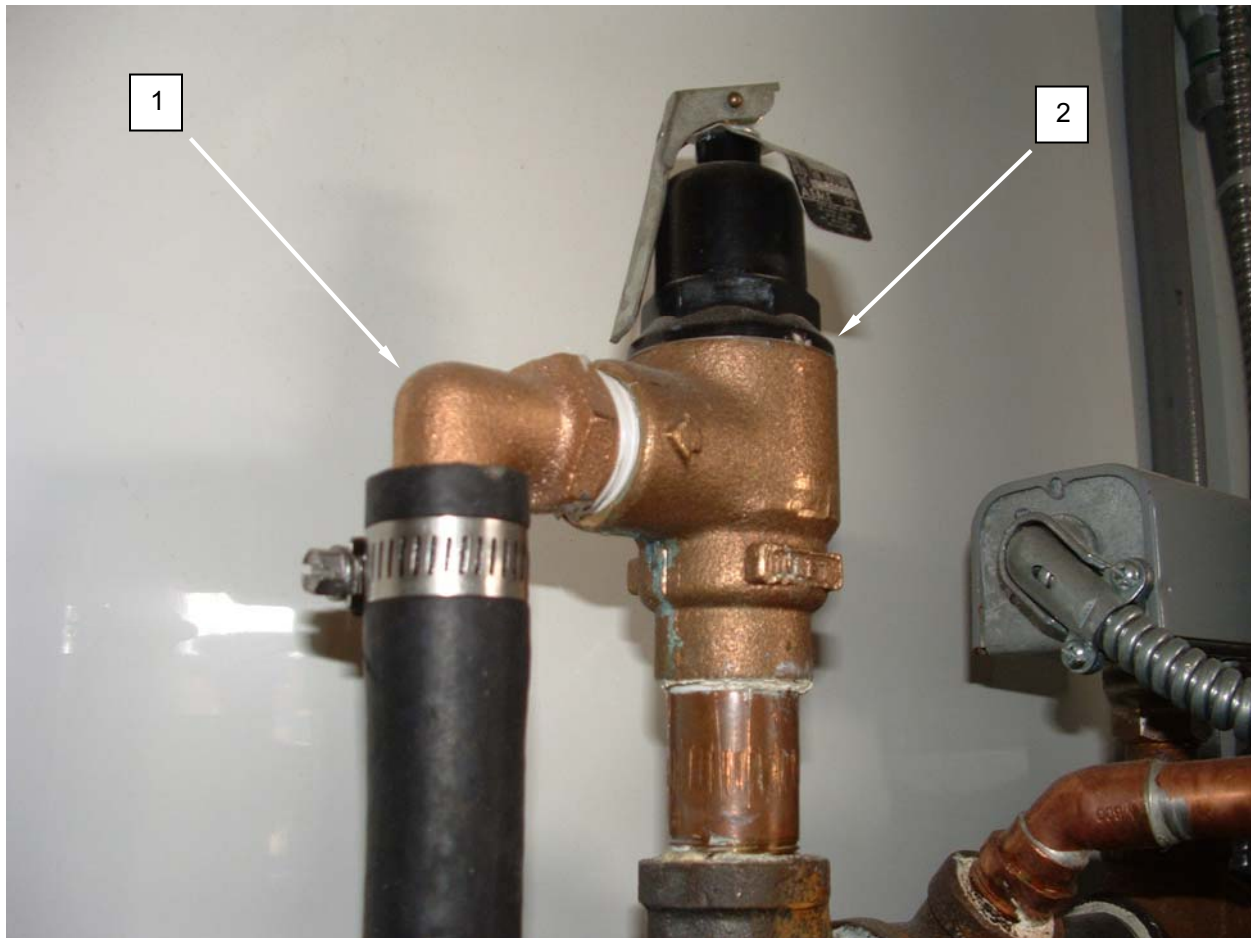

Figure 1. Replace the Pressure Relief Valve.
4. Remove hose barb fitting (**Figure 1, Item 1**) and retain for use with replacement valve (**Figure 1, Item 2**).
5. Unscrew valve (**Figure 1, Item 2**).
6. Coat threads of replacement valve (**Figure 1, Item 2**) with pipe sealer compound, and screw valve into place.
7. Install hose barb fitting (**Figure 1, Item 1**).
8. Ensure valve hose barb fitting (**Figure 1, Item 1**) is positioned correctly, and connect hose.